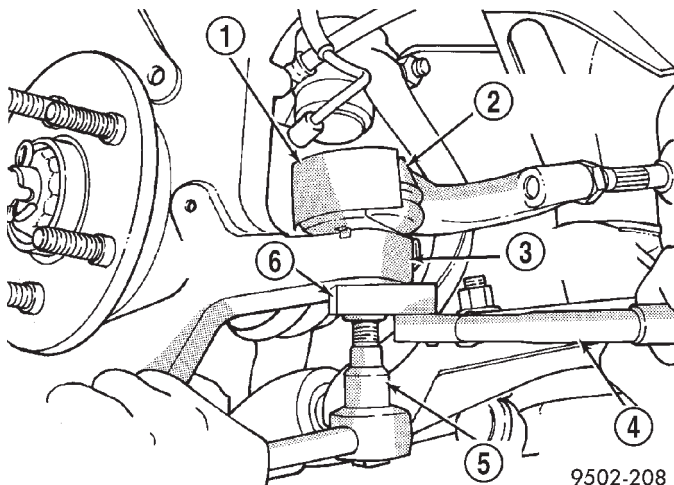

Fig. 25 Torquing Tie Rod End Attaching Nut
CAUTION: When installing tie rod on steering knuckle the heat shield (Fig. 25) must be installed. If heat shield is not installed, tie rod seal boot can fail due to excessive heat from brake rotor.
(7) Install tie rod end into the steering knuckle. Start tie rod end to steering knuckle attaching nut onto stud of tie rod end. While holding stud of tie rod end stationary, tighten tie rod end to steering knuckle attaching nut (Fig. 17). Then using a crowfoot and 11/32 socket tighten the attaching nut to a torque of 61 N·m (45 ft. lbs.) (Fig. 25).